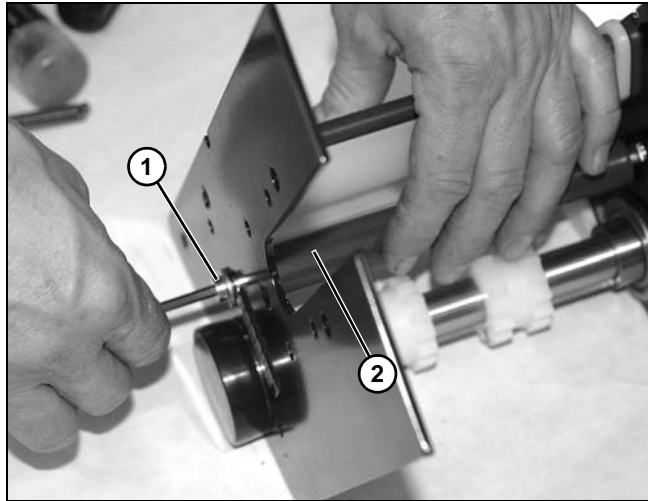

Figure 127
18. Remove socket head screw (**Figure 127, item 1**) on each side holding tension rod (**Figure 127, item 2**) onto power transfer.